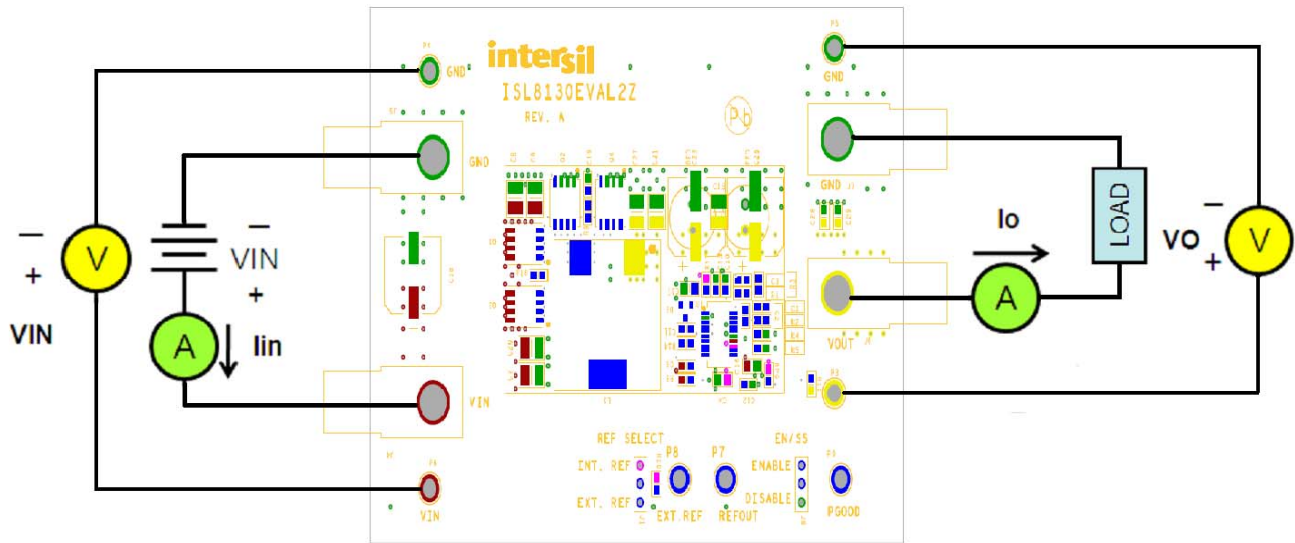

FIGURE 2. ISL8130EVAL2Z TEST SET-UP
1. Ensure that the Eval board is correctly connected to the power supply and the electronic load prior to apply any power. Please refer to Figure 2 for proper set-up.